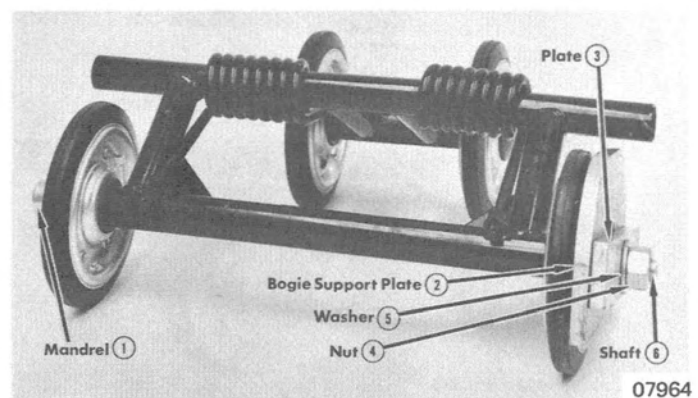

Figure 7. Installing Bogie Wheel
1. Install bogie wheel on tube assembly as shown in Figure 7. Bogie wheel may be installed with a press as shown in Figure 8.